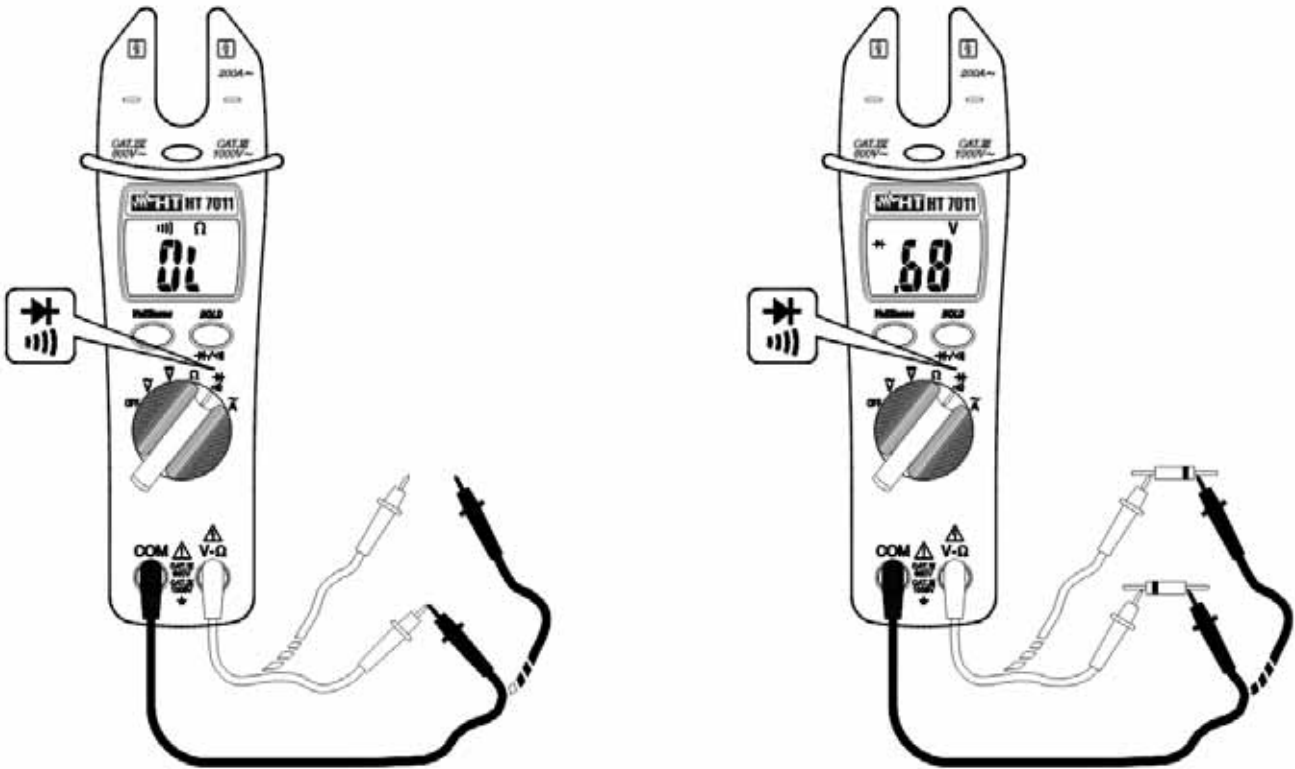

Fig. 7: Taking continuity test and diode test
3. Insert the red test lead plug into V- Ω jack and the black test lead plug into COM jack and perform continuity test on the object on test (see Fig. 7 – left side). Buzzer emits sound if the measured resistance value is less about 50 Ω .
5. Connect the red test leads to the anode of diode on test and the black test lead on the cathode ones (see Fig. 7 – right side). The correspondent threshold voltage of P-N junction is showed on display.